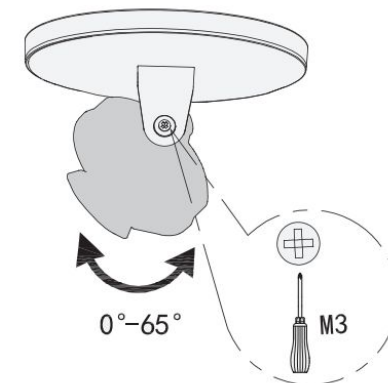

Figure 2-4
Step 4 Loosen the bracket screw to adjust camera angle as shown in Figure 2-4.